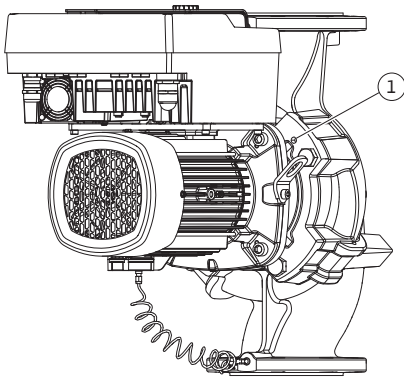

Fig. 11: Pressing off the motor impeller unit via threaded holes (DN 100 ... DN 125)
5. Remove the motor impeller unit (see Fig. 4) from the pump housing. To do this, loosen all screws (DN 32 ... DN 80: Fig. I, Item 29; DN 100 ... DN 125: Fig. II, Item 29). Press the motor impeller unit off the pump housing. For DN 80 ... DN 125 use the two threaded holes (Fig. 11, Item 1). Screw M10 screws with a suitable length into the threaded holes to loosen the seat.
5. Press the motor impeller unit (see Fig. 4) off the pump housing. Use the two threaded holes for this (see Fig. 11). Screw M10 screws with a suitable length into the threaded holes to loosen the seat.